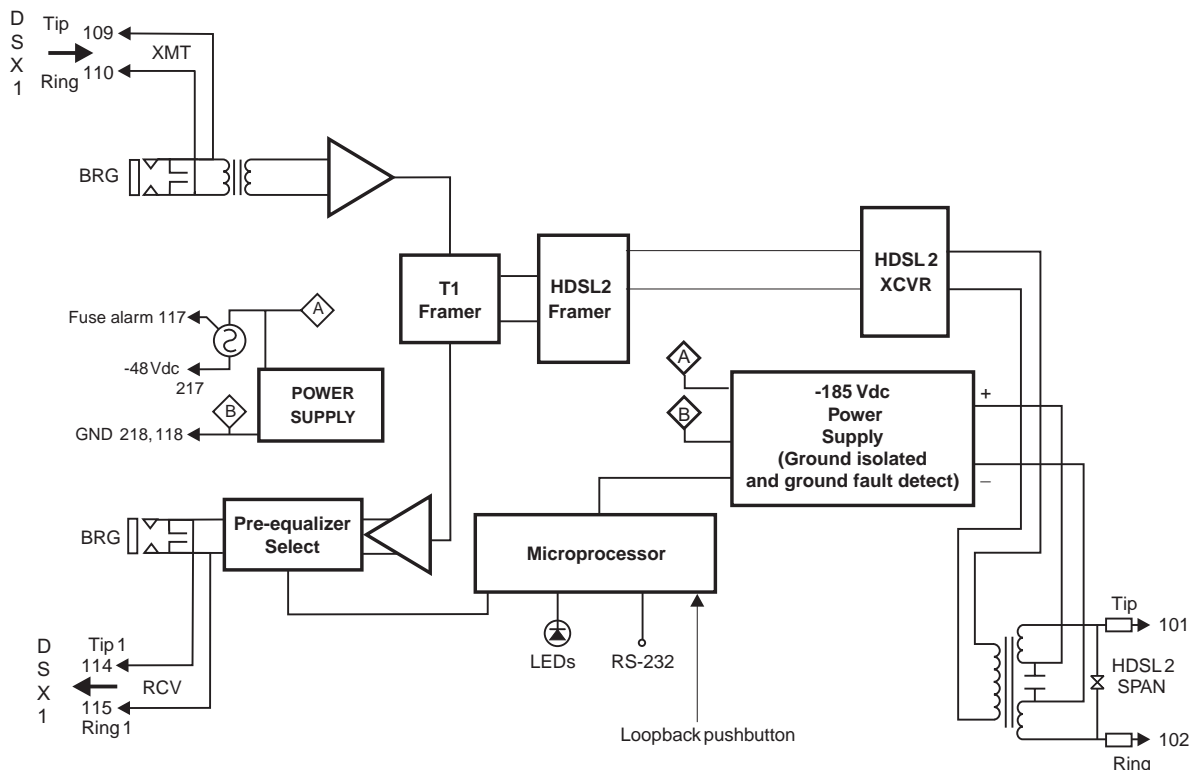

Figure 36. H2TU-C-388 List 3F Block Diagram
Figure 36 shows a block diagram of the H2TU-C-388 List 3F. The H2TU-C receives a 1.544 Mbps DSX-1 data stream from the DSX-1 digital cross-connect interface. The H2TU-C contains a DS1 frame synchronizer controlled by an 8-bit microprocessor that determines the type of framing on the DS1 stream. The H2TU-C synchronizes to the type of framing detected. The H2TU-C recognizes SuperFrame (SF), including D4 or Extended SuperFrame (ESF).